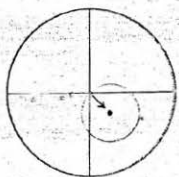

Fig. 5
- 3) Looking through the eyepieces, rotate the stage and an eyemark on the specimen moves in a circular path as in step C. 2). (Fig. 5)